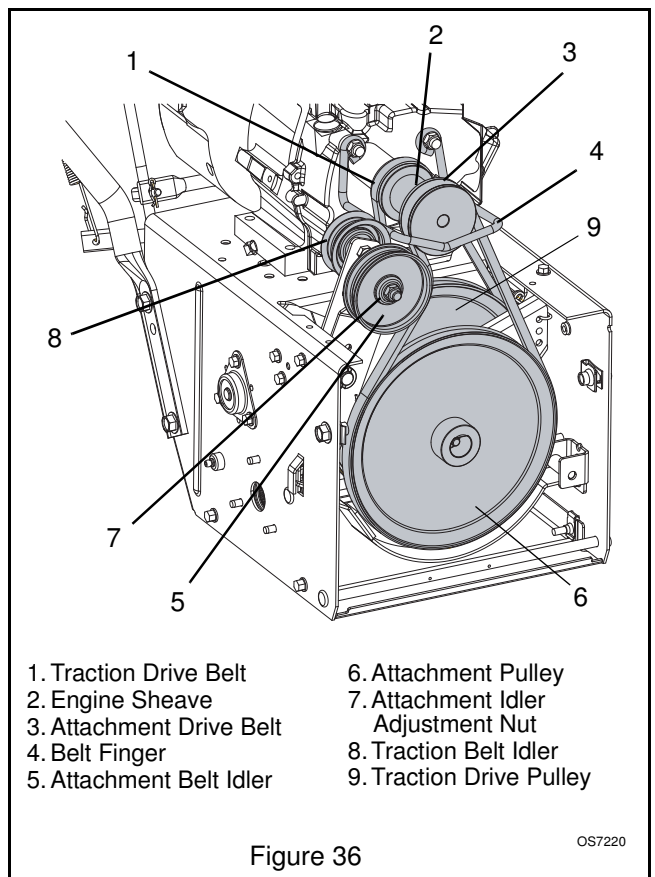

Figure 36
2. Check belt finger clearance (Figure 36).
4. Remove belt finger (Figure 36).